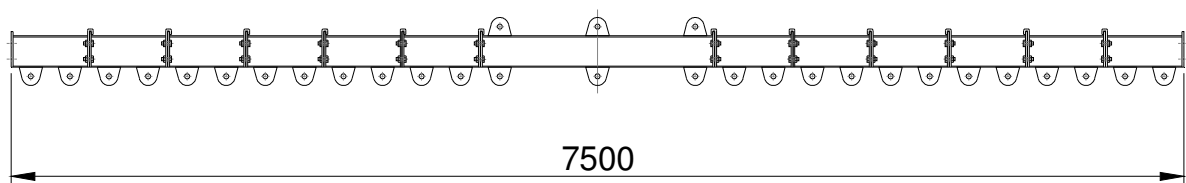

Figure 3 – Maximum Overall length of 1 tonne Lifting Beam
5. Extension pieces are to be added as per Steps 2 through 4 until the desired lifting length has been reached. The overall length of the lifting beam is not to exceed 10.5 m – see Figure 3.